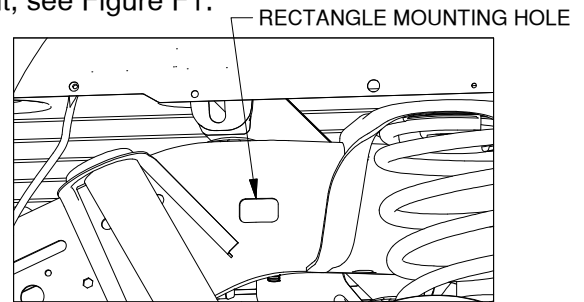

FIGURE F1: View looking into driver side wheel well.
1. **Prepare for hardware installation.** Each front side plate will install by mounting 1/2" carriage bolts into existing holes in the frame. Start by locating two 1/2" x 1-1/2" carriage bolts, two locking straps, the two rectangle frame spacers, and two bolt retainers. Identify the rectangle hole on the outside of the frame just in front of the axle where the hardware will mount, see Figure F1.